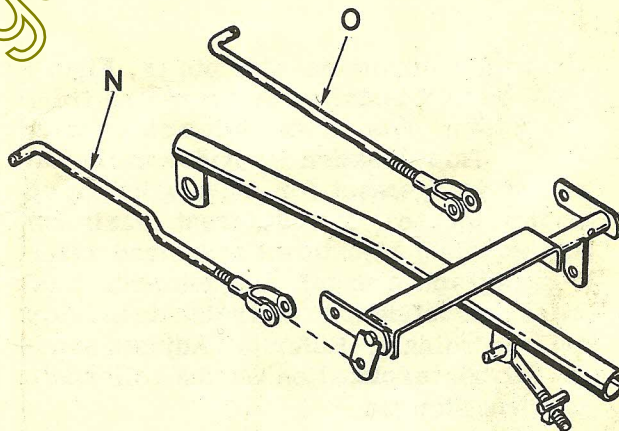

Figure 6. Front to Rear Level Adjustment
13. The mower deck must be level from front to rear. With the mower deck resting off the floor, equally adjust the length of the right and left leveling rods (N and O, Figure 6), if necessary.
1. Deck "Level" - Front to Rear. The mower is adjusted at the factory to be level, fore and aft. Should readjustment be required, equally adjust the length of the leveling rods (N and O, Figure 6).